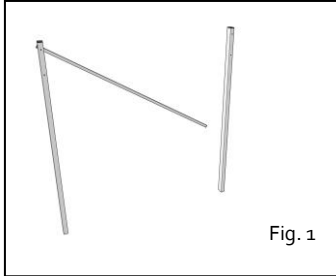
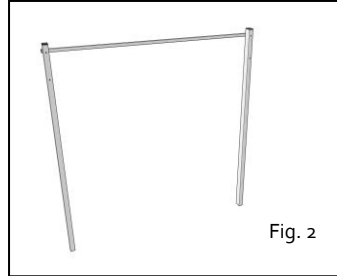

Fig. 1
Fig. 2
- 3) **Loosely** attach the Rear Bar to the back of the top bolt hole using 90mm bolt, washers and nyloc nut supplied. Allow other end of Rear Bar to rest on ground. Cement the second Post into position (Fig. 1). Attach the Rear Bar to the second Post (Fig. 2). Check both posts are perpendicular and the Rear Bar is level. Adjust levels if necessary prior to attaching the clothesline frame. Fit plastic caps to Post and Rear Bar ends.